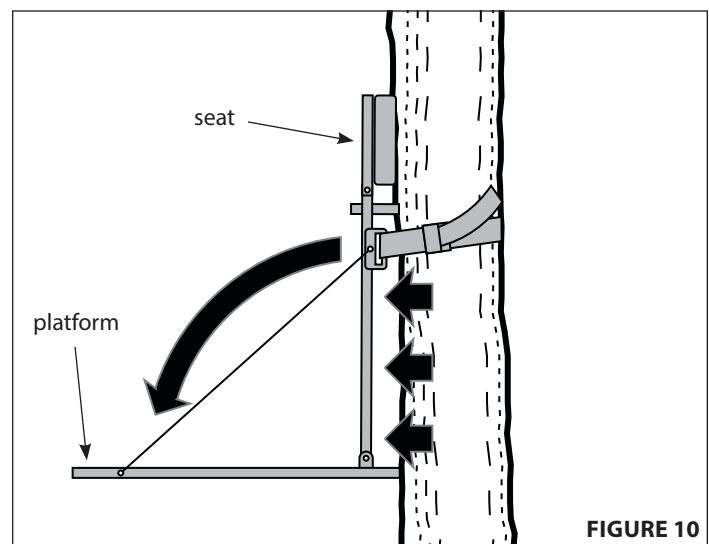

FIGURE 10
e. Once securely attached, pivot the platform down. This lever-action will snug stand up tight to tree to prevent any shifting. Redo as necessary to accomplish a snug stand-to-tree fit. All four contact bars must be touching tree! **SEE FIGURE 10**
2. Before stepping down onto center of stand platform, be sure it is secured properly and is tight against tree with all (4) contact bars touching tree!